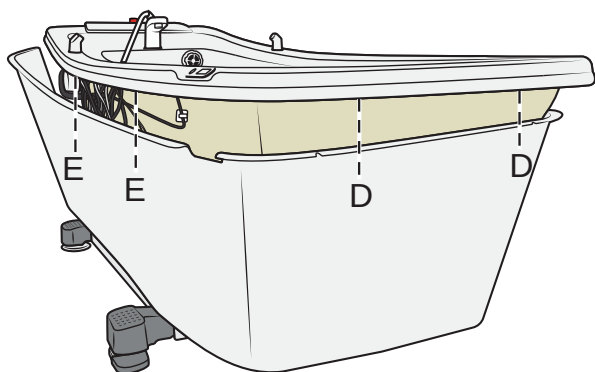
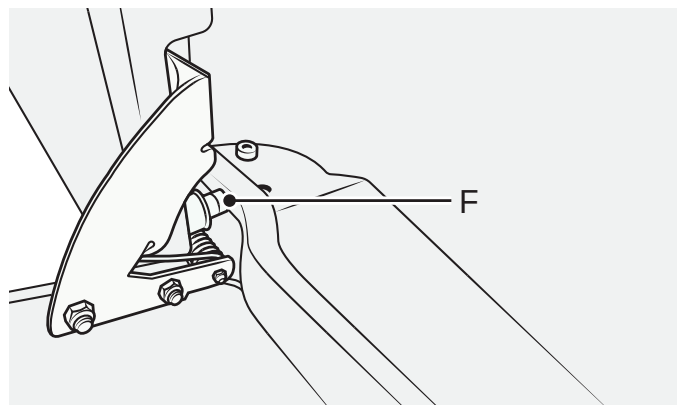

Figure 139
Figure 140
4. Fasten the 2 nuts (A) on the head end, just slightly. See Figure 139.
5. Continue to fasten the 2 nuts (B), just slightly, on the opposite side of the disinfection compartment.
7. Make sure the disinfection hatch hinge spacer (C) is in the correct position (on the outside of the compartment). See Figure 140.